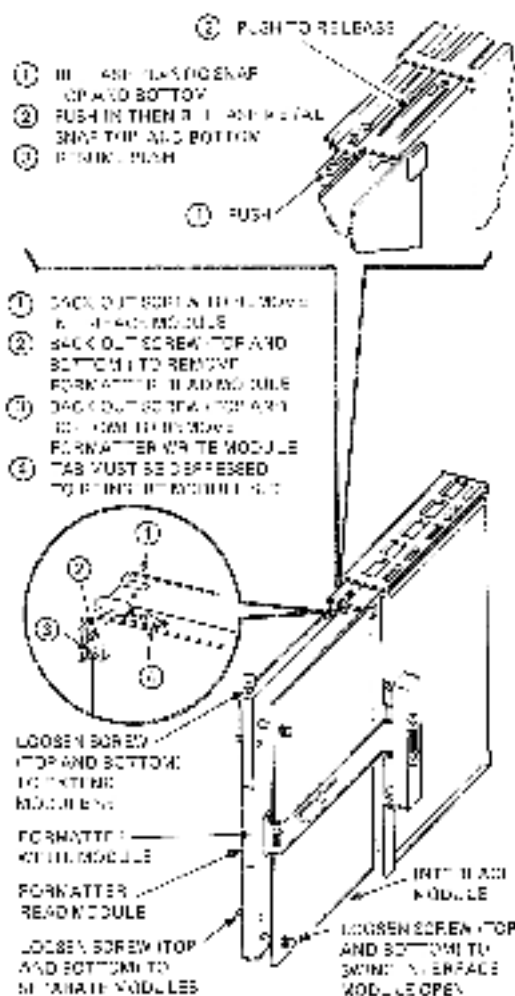

Figure 4-28 Logic Cage for Formatter Read, Format, or Write, and Interface Modules
1. Loosen the top and bottom logic cage latches and slide the cage out until the top and bottom guides engage (Figure 4-28).
2. Loosen the two thumbscrews (Figure 4-28) on the formatter read module and separate the formatter read module from the formatter write module. Avoid excessive stress on the modules by loosening the thumbscrews alternately and separating the modules as the screws are loosened.
3. Loosen the upper screws of each hinge 6 to 8 turns (Figure 4-28). Loosen the lower screws 2 turns. (Do not remove any of the screws.) Hold the module in place while loosening the screws.
5. Loosen the lower screws of each hinge 6 to 8 turns (Figure 4-28). Hold the module in place while loosening the screws.
4. Release the top and bottom screws from the brackets (Figure 4-28) and free the module from rear connector W7P9. Remove the module from the cage.
1. Attach rear connector W7P9 to the TMSCP interface module. Insert and secure the interface module in the upper and lower brackets (Figure 4-28).